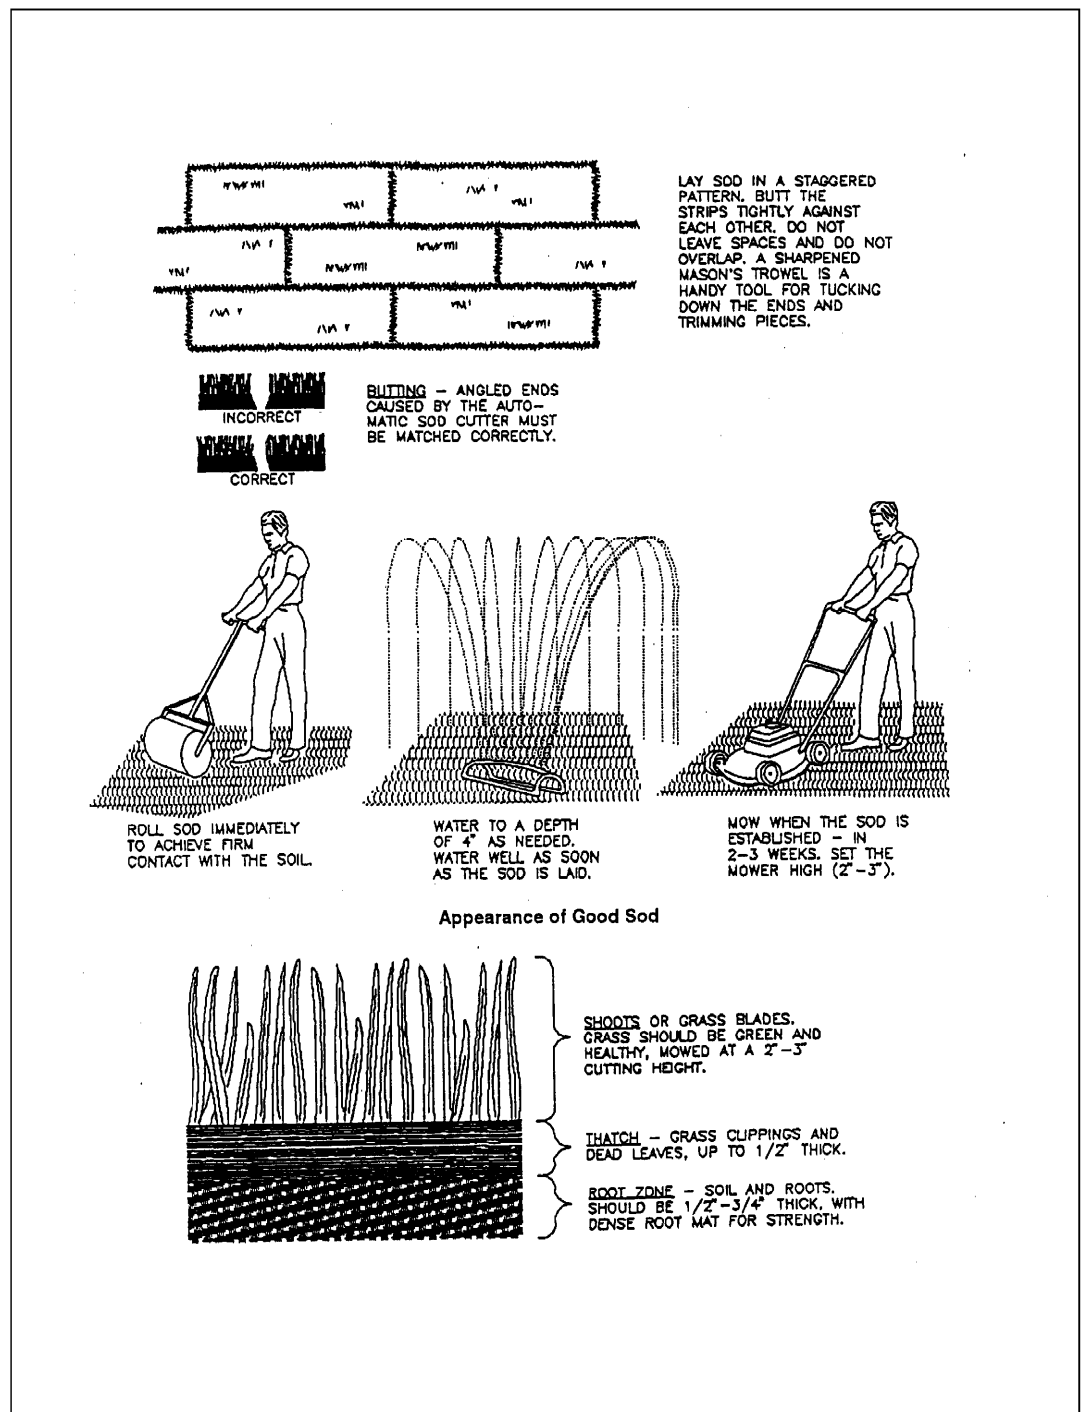

Figure 7.6a. Sodding
1. Prior to soil preparation, areas to be sodded shall be brought to final grade in accordance with the approved plan. These operations should leave as much topsoil as possible or replace the topsoil to a depth of 4 inches (10 cm) (see Figure 7.6a).